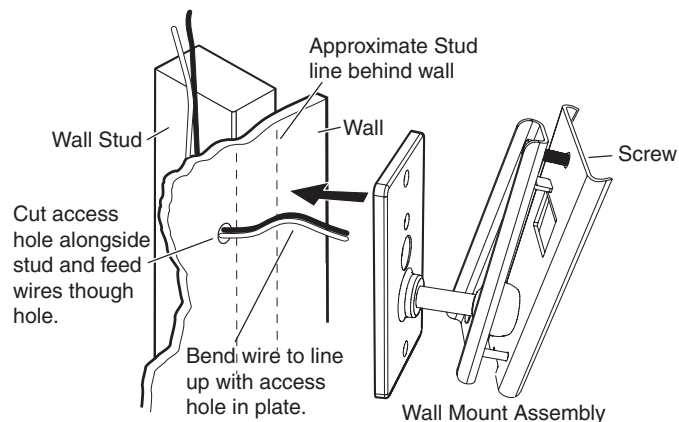

Figure 5 — Install wall mount assembly
4. Mark the wall where the wire will pass through the plate, and cut a small access hole large enough for the wire to pass through without snagging. If the stud is wider than the plates access hole, then cut the hole in the wall to the left or right and directly alongside the stud (see figure 5). Before cutting it, make sure the plate will cover the hole when it is finally installed.
5. Using compatible speaker wire (Extron recommends using 12-18 AWG), route the wire from the audio source to the SI speaker location by the most convenient and safe route. If the wiring is to remain hidden behind the wall, follow the stud to where the small access hole has been cut, and feed about two feet of wire out through the hole into the room. If necessary, bend the wire to align with the plate (see figure 5). Secure the wire at various places to the stud, but allow enough freedom of movement near to the hole for connection to the speaker